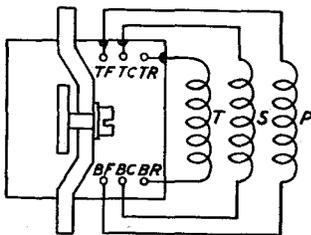

FIG. 5 - WINDING TERMINAL ARRANGEMENT AS VIEWED FROM THE FRONT (CONTACT SIDE) - U, Y, UA AND UB TYPE RELAYS
**2.22 The second letter is used on multi-winding relays where the terminal is located in a row containing two or more winding terminals.** The second letter is F for front, C for center or R for rear as shown in Fig. 5. These letters represent the position with respect to the front of the relay of that portion of the winding terminal located in front of the rear spoolhead. The F terminal is located nearest the armature and toward the front of the relay.